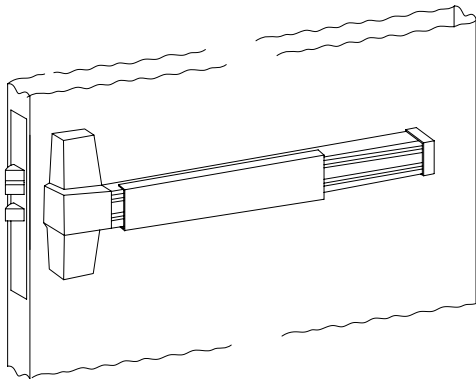
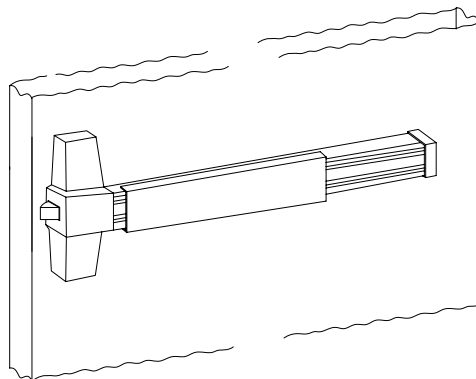

FIGURE 10a
FIGURE 10b
1. Mortise, Figure 10a, and Rim, Figure 10b, types are used on single doors, active leaves of pairs, and multi-opening assemblies.